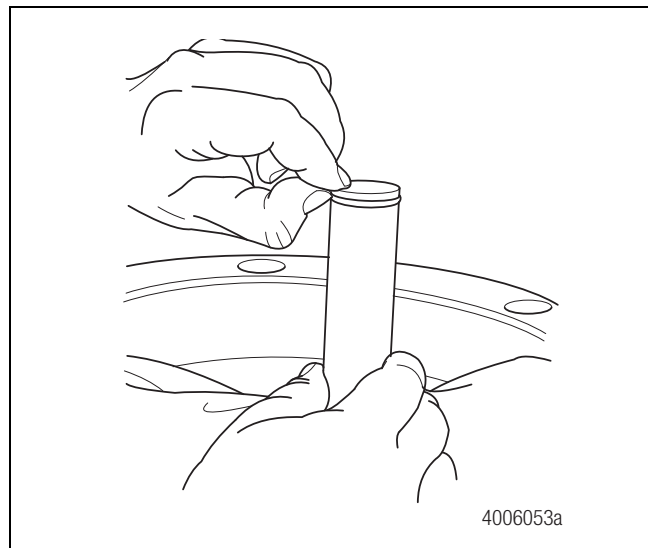

Figure 5.6
3. Remove the O-rings from the planetary pinion shaft. Figure 5.6.